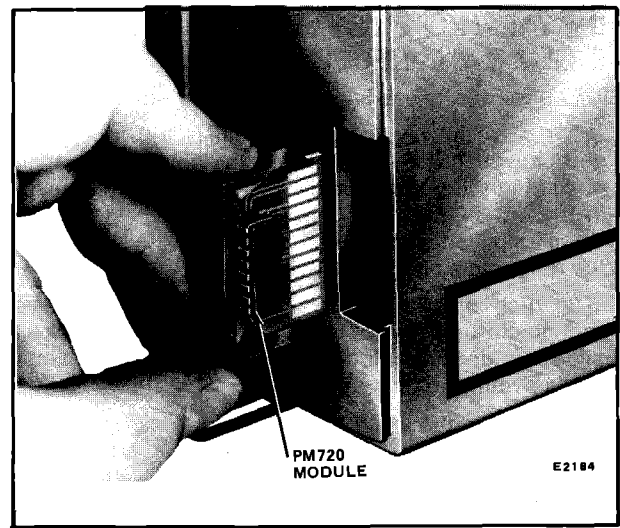

FIG. 12—INSTALLING THE PM720 PROGRAM MODULE IN THE BC7000 MICROCOMPUTER BURNER CONTROL SYSTEM.
INSTALLING THE PM720 PROGRAM MODULE (Fig. 12)
3. Insert the program module into the opening in the side of the amplifier compartment (see Fig. 12) **NOTE THAT THE MODULE IS KEYED.**